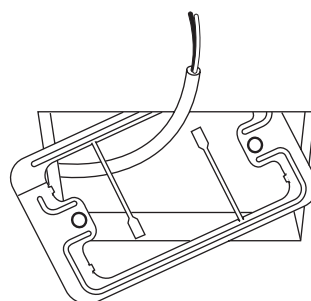

Fig. 5-20
- (1) Remove the cover plate by inserting a flathead screwdriver into the notch in the lower section and prying it off.
- (2) Cut out a section (3-3/4"x2-1/32") on the ceiling using the paper pattern (supplied) as a guide.
- (3) Run the wire through the mounting carrier and insert into the installation hole as shown in Fig. 5-20.